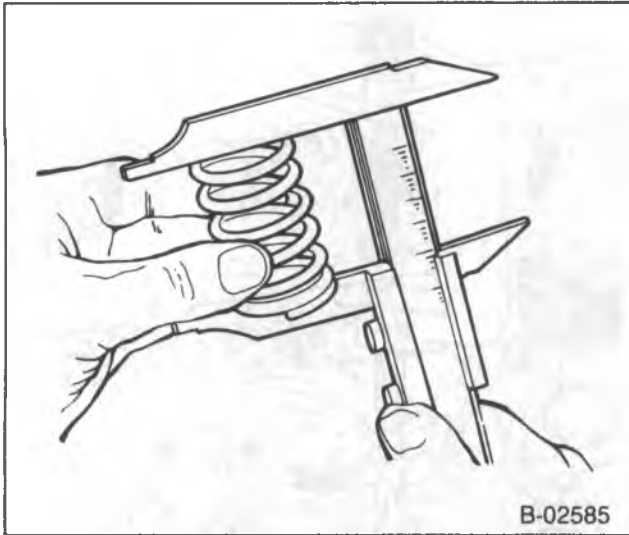

Figure 34—Measuring Valve Spring Length
- Valve spring length (figure 34). Replace the spring if the length is not as specified.